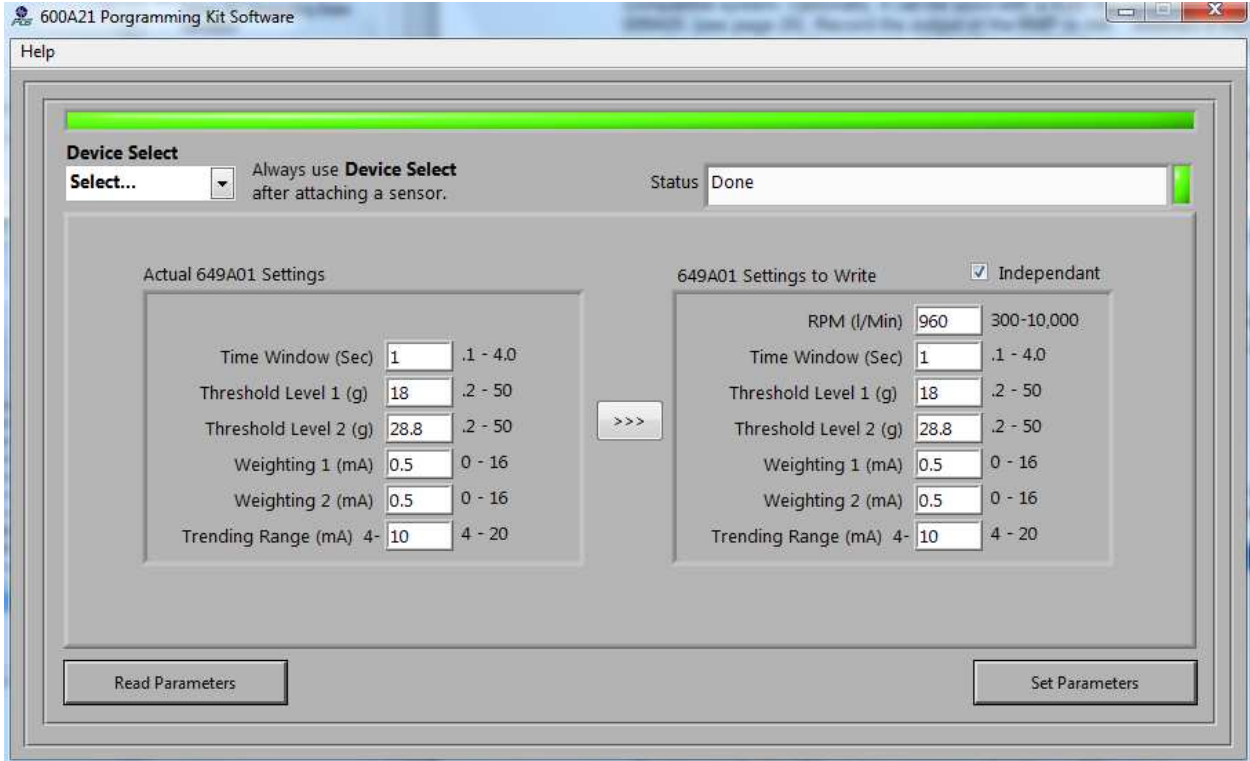

Figure 14 – RMP Programmer Screen for 6 g Peak Acceleration on a Piston Pump
6. Using the example of 6 g peak acceleration from step 4, enter the parameters in the Programmer Screen, and click Setup to program the RMP. The following Programmer Screen, Figure 14, should be displayed.